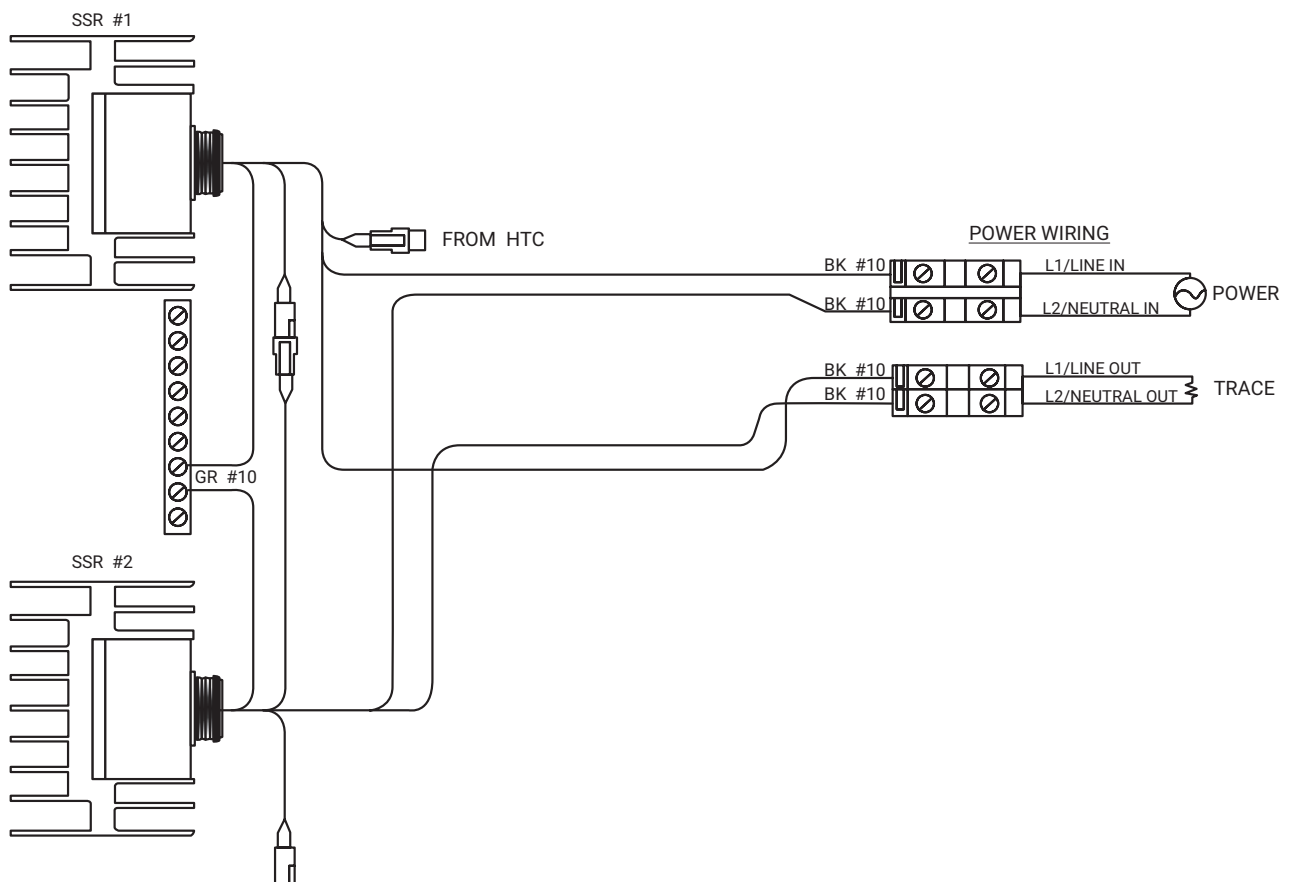

Figure 2
- Wire the switches according to Figure 2 at the end of this document. The #10 green wire of each SSR assembly is connected to the ground bar on the enclosure backplane. Feed one of the #10 black wires of the first SSR assembly through the top tube of the switch interface (SIS) labeled LINE, cut and strip to length, and then wire into the power terminals. Wire the other #10 black wire to the power terminals (do not feed through the switch interface). Feed one of the #10 black wires of the second SSR assembly through one of the other tubes in the switch interface, cut and strip to length, and connect to power terminal. Wire the other #10 black wire of the second SSR assembly to power terminal.